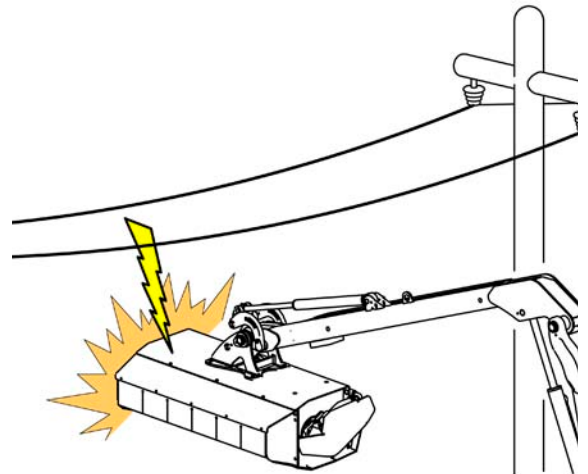

FIG. 3.2
**Pay special attention when working under or near electric lines, an electric arc may be released (FIG. 3.2).**